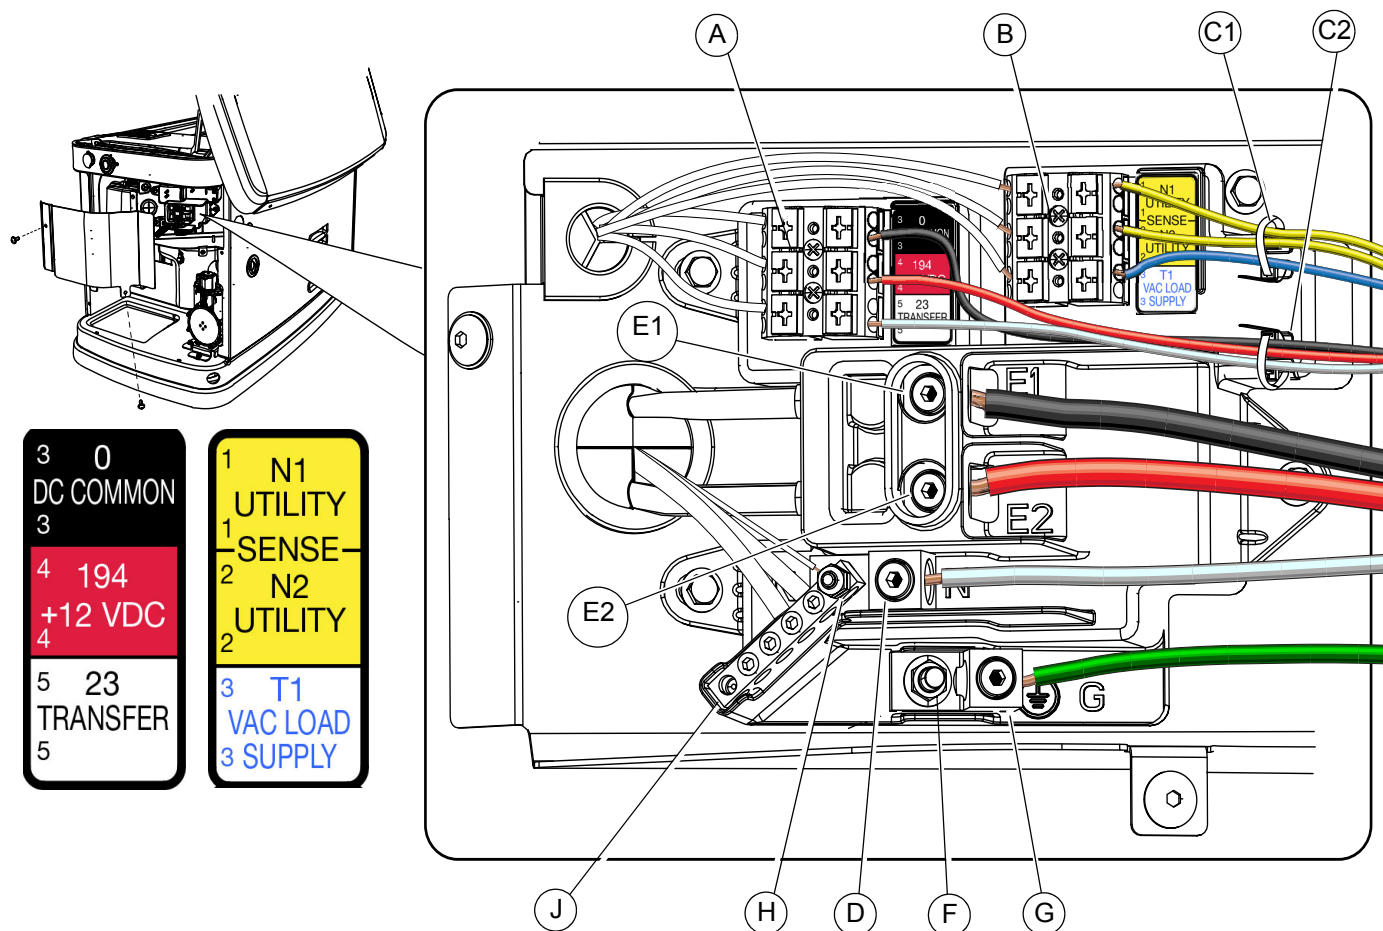

Figure 6-1. I Electrical Wiring Connections
See Figure 6-1. The electrical wiring enclosure is located behind an access panel on the intake end of the unit. Remove the intake side panel as directed in Intake Side Panel Removal, and then remove the access panel. Connect wires according to the diagram and tables.
4. Strip the insulation from the ends of the wires. Do not remove excessive insulation. See Figure 6-1. Route the sense wires through the supplied wire tie (C1), and connect to the sense wire terminal block (B). Push down on the spring loaded connection point with a flat head screwdriver, insert wire, and release.
5. Using the same process, route the control wires through the second supplied wire tie (C2), and connect to the control wire terminal block (A).
2. See Figure 6-1. Loosen the lugs at neutral (D), ground (G), and power wire (mains) terminals (E1, E2).
NOTE: Neutral bonding – Installations that require the neutral to be bonded to the ground are done on the customer connections terminals inside the generator. See Figure 6-1. Connect a suitably sized wire from the neutral bar (J) to the ground stud (F). Torque the nut on the ground stud to 35 in-lbs (3.95 Nm). This is normally required when the generator is the source in a separately derived system. It is not required when the generator is a backup source in a utility supplied electrical system with a 2-pole transfer switch. The installation must be made in accordance with NEC Articles 250.30 and 250.35(A) if the generator will be installed as a separately derived system.